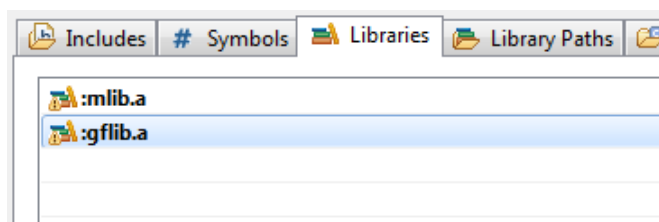

Figure 1-24. Libraries
9. After adding the library paths, add the library files. Click the Libraries tab. See Figure 1-24.
14. Click OK, and you will see the libraries added in the list. See Figure 1-24.